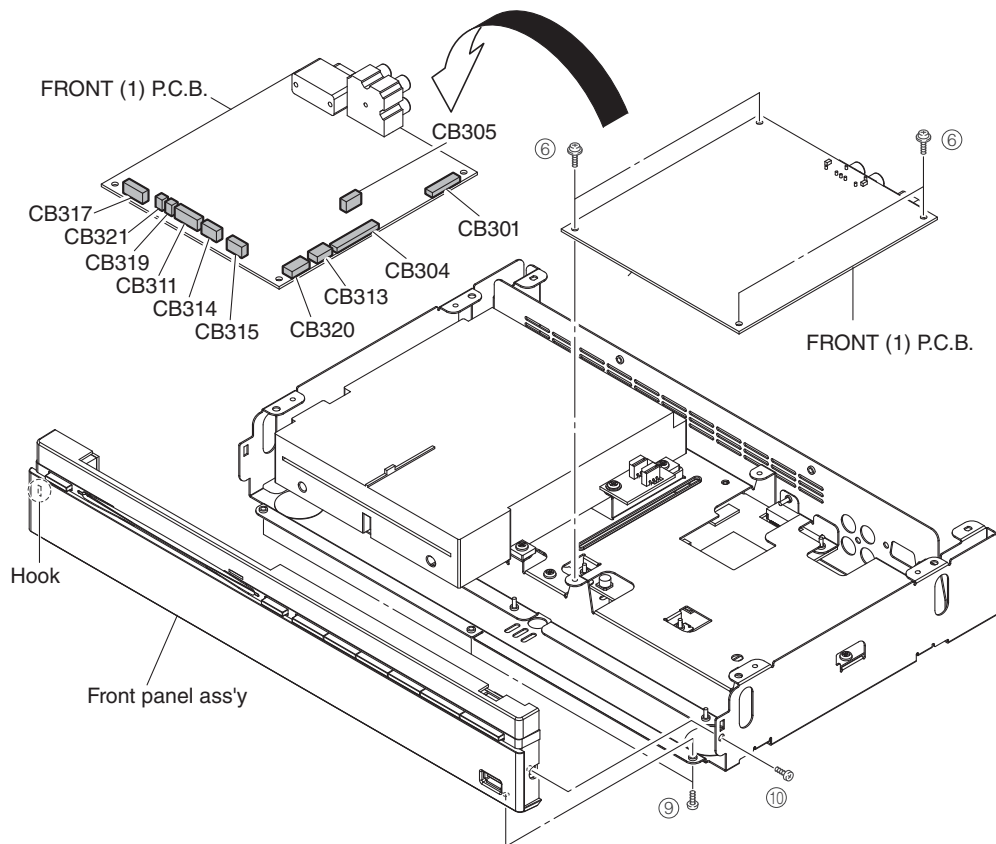

Fig. 3
3. Removal of FRONT (1) P.C.B.
- Remove 4 screws (⑥). (Fig. 3)
- Turn over the FRONT (1) P.C.B.. (Fig. 3)
- Remove CB301, CB304-305, CB311, CB313-315, CB317, CB319 and CB320-321. (Fig. 3)
- Remove the FRONT (1) P.C.B.. (Fig. 3)
- Remove 3 screws (⑨) and screw (⑩). (Fig. 3)
- Release a hook. Remove the front panel ass'y. (Fig. 3)